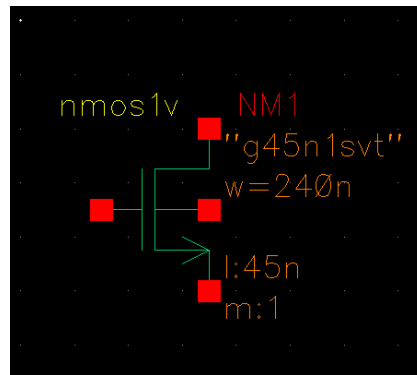

Figure 15: Add NMOS Transistor Instance Form
- Add 2 more of these (see Fig. 15), you should have a total of **3** NMOS with this same sizing